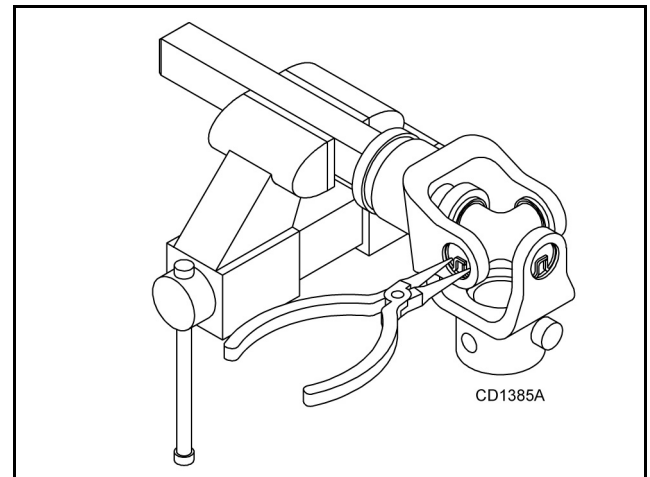

Figure 17
1. Remove external snap rings from yokes in four locations as shown in Figure 17.